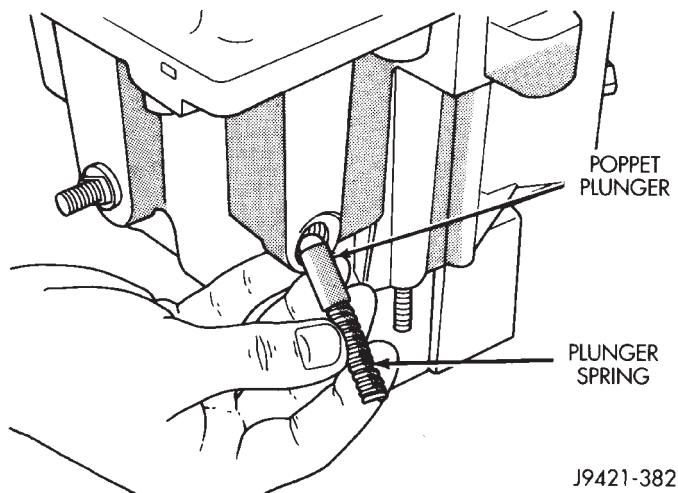

Fig. 19 Poppet And Spring Removal
- (7) Remove poppet plunger screw.
(8) Remove spring and poppet plunger (Fig. 19).